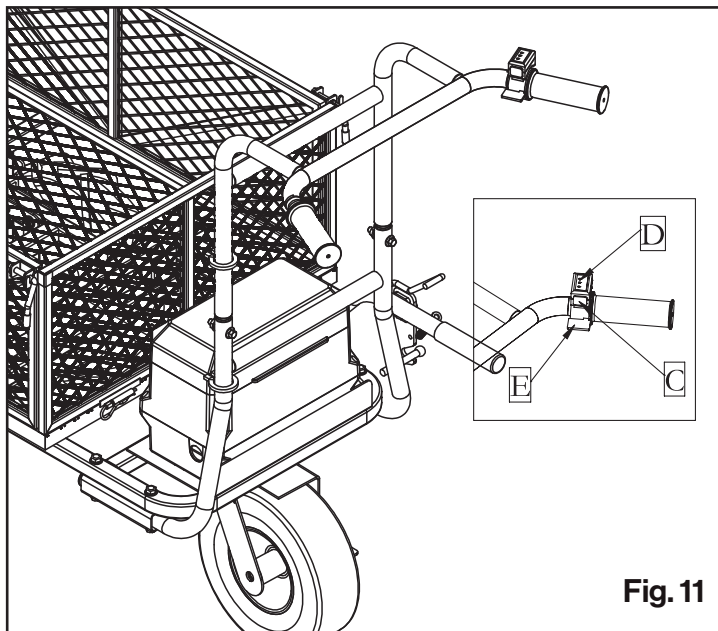

Fig. 11
2. Press the start switch (C) on the right handle, then the battery indicator (D) will light up with all 3 LED lights and machine is ready for working. Press and hold the Switch trigger (E) to start working. By pressing less or more to control the moving speed. (See Fig. 11)